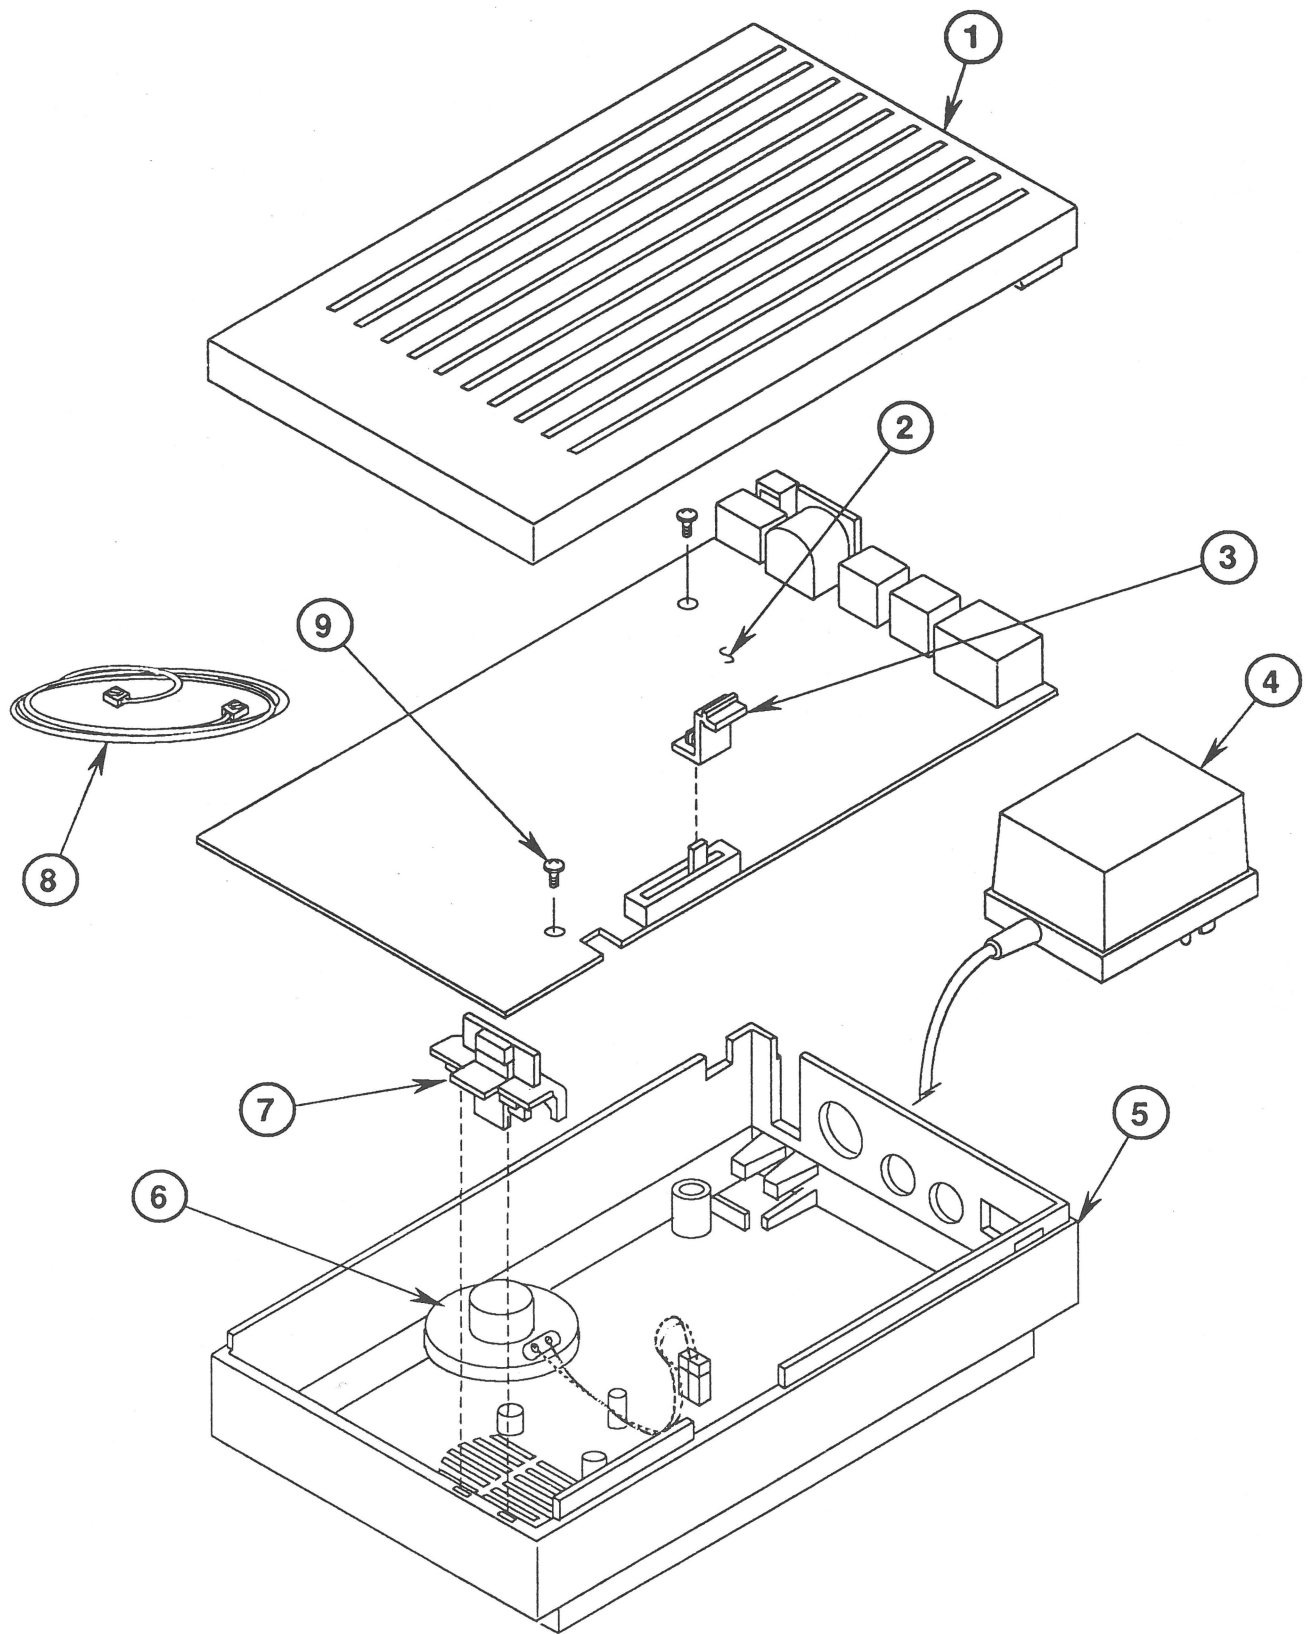

FIGURE 4
- IPL.9 Apple Data Modem 2400 (Figure 4)
□ **APPLE DATA MODEM 2400 (Figure 4)**